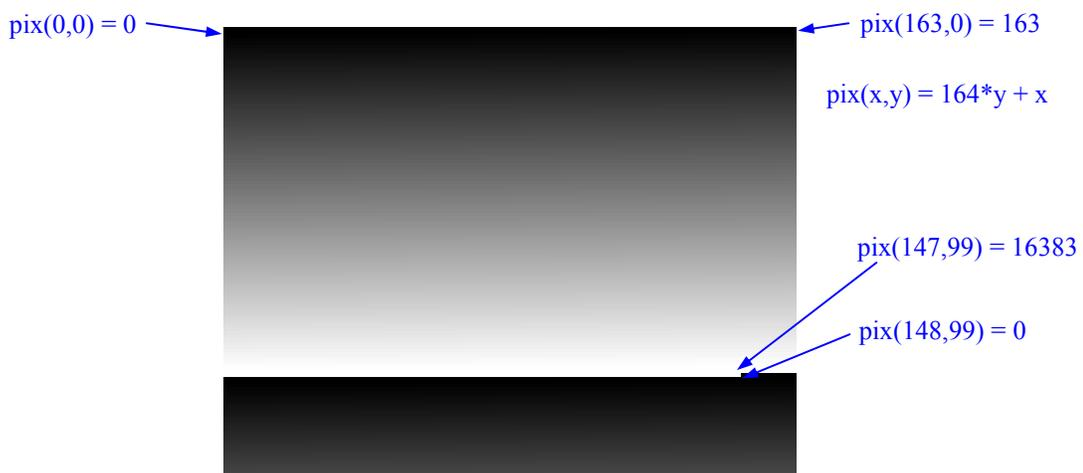

Figure 20: Ascending ramp test pattern
2. Ascending Ramp. In this mode, the test pattern shown in Figure 20 is provided at the analog and digital data channels.
Note: The ascending-ramp test pattern is intended primarily for verifying the output of the optional digital data channel. The pattern will not necessarily look as shown in Figure 20 when